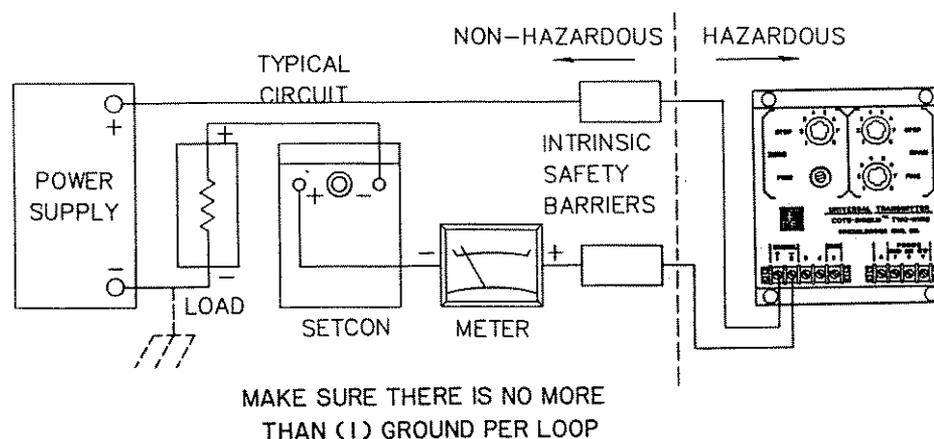

Figure 6-4
- A. See Figure 6-4. With the sensing element disconnected, remove the power wires from Terminals 1 and 2 and measure the open circuit voltage from the power supply. Voltage should be between 13 and 100 Vdc.
- B. Connect the signal wires to Terminals 1 and 2. Turn the Step Span and Step Zero controls to Position #1. Turn the Fine Span control completely clockwise (CW) and adjust the Fine Zero until 20 mA flows.